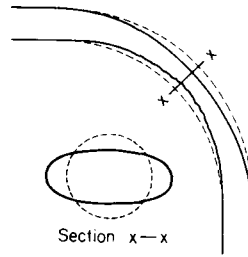

Fig. 4.166
**Bending of pipes.** Copper tubes can easily be bent. The original length of the pipe remains unaltered after bending only along the centre-line of the pipe. The inside of the bend is shortened whilst the outside is lengthened. This shortening and lengthening is likely to produce a shape similar to Fig. 4.166 unless steps are taken to prevent it occurring. If this shape does occur after bending the pipe is likely to collapse in service.